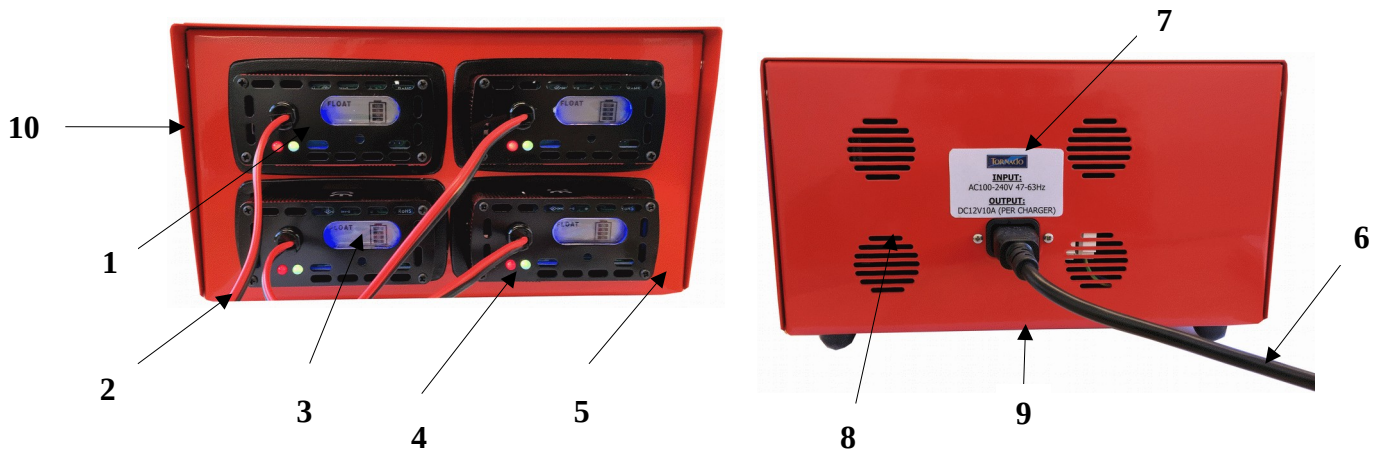

Fig 3.4 - The Charger
The charging unit is designed to charge four batteries. Each battery is charged independently of the others. Each output has its own control unit and status indicator display. The battery charger is a well known commercial unit assembled by Tornado International into a custom designed case for convenience. The charging units are completely automatic with no charge rate or time to be set. The charging cycle is set out below figure 3.4. The principal features of the Chargers are shown in Figure 3.4 below.
Connect charger to a mains outlet which has the same voltage and frequency as shown on the specification label in fig 3.4. Battery charging station must be located in a clean dry area free from contact with water and dirt. Re-charging must be carried out at an ambient temperature of 0 deg C to 30 deg C. For extra cable length use only the charging lead extension cables supplied. Do not use if dropped or damaged, contact Tornado immediately if in any doubt about the charging operation.
The chargers (Fig 3.4) should be placed on a suitably positioned shelf and a number of factors must be taken into consideration. The size of the chargers may be found at appendix B.
1. If the chargers are mounted in any type of box or housing then the volume of the box must exceed twice the volume of the chargers installed. In addition the minimum ventilation required is as follows. For convection cooling the vents in the housing must each be at least equal to the total area of the vents respectively in the chargers themselves (Fig 3.4). For fan assisted cooling the top and bottom vents in the housing should be equal to 75% of the total area of the top and bottom vents respectively in the chargers themselves.
5. Attention must be paid to the length of the battery leads (Fig 3.4 items 2) fitted to the charger. The charger should be positioned in such a manner that the cable will reach the battery without undue operator effort or strain on the cable. In particular it should be noted that the batteries are too heavy to be lifted onto a shelf.
1. Check the charging indicators on the front of the charger (Fig 3.4 items 3&4). The digital display should read 100%, with the GREEN LED illuminated when fully charged. If the indicators do not show this then notify your supervisor and do not disconnect the battery.